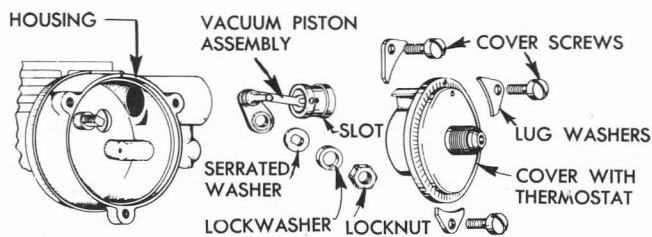

Figure 3-74—Stromberg Choke—Disassembled
2. Remove three screws and lug-washers; then remove thermostat cover with thermostat. See figure 3-74.